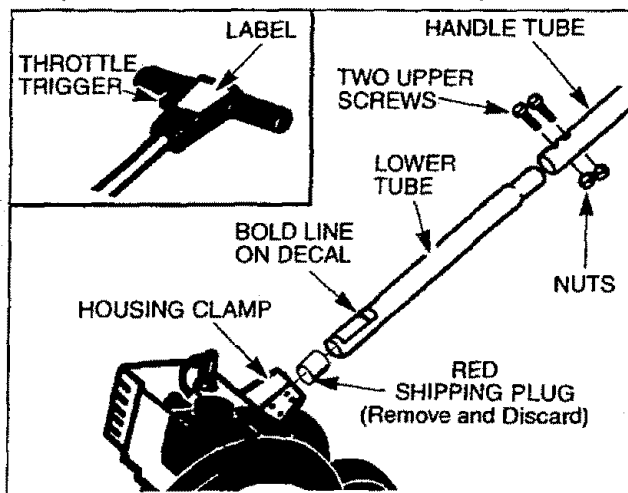

Figure 1
TUBE ASSEMBLY (Fig. 1 & 2)
- Loosen the two upper screws in the housing clamp. Then, remove and discard the shipping plug. Figure 1.
- NOTE:** In performing the next step, be sure the handle is aligned with the label on the top and the throttle trigger on the operator's right hand side. Figure 1 inset. *The starter rope and throttle cable must not wrap around the tube.*
- Insert the two screws through the aligned holes. Thread nut onto each screw and tighten securely. Figure 1.